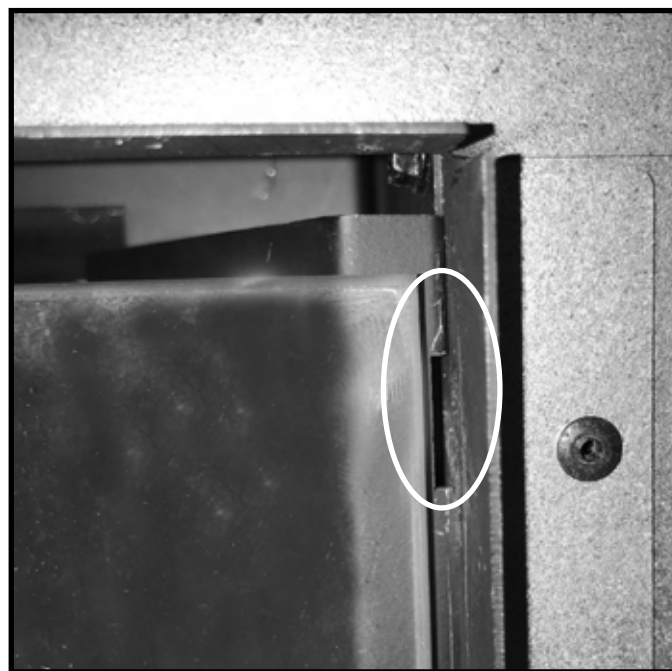
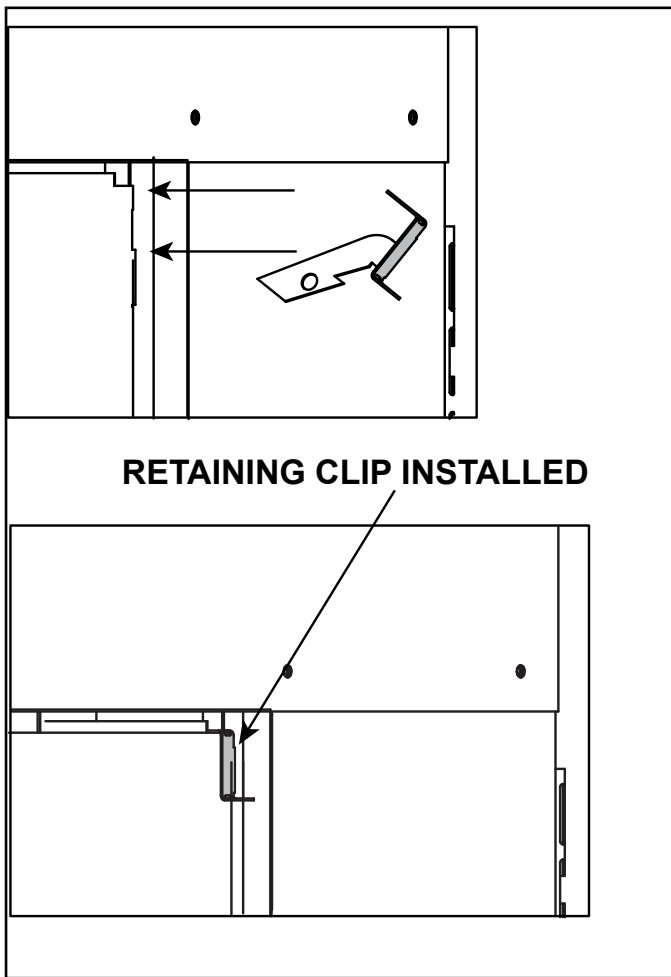

Figure 11.25 Slot for Barrier Glass Retaining Clip (Right Side Shown)
Figure 11.26 Barrier Glass Retaining Clip Installation (Right Side Shown)
4. Install the SafeSurface glass retaining clips by placing the bottom of the clip into the slot shown in Figure 11.25. Rotate the top of the clip up into position as shown in Figure 11.26. Repeat on both sides of the appliance.
2. Remove barrier glass retaining clips on left and right sides by gently pulling up and rotating outward. See Figure 11.26.